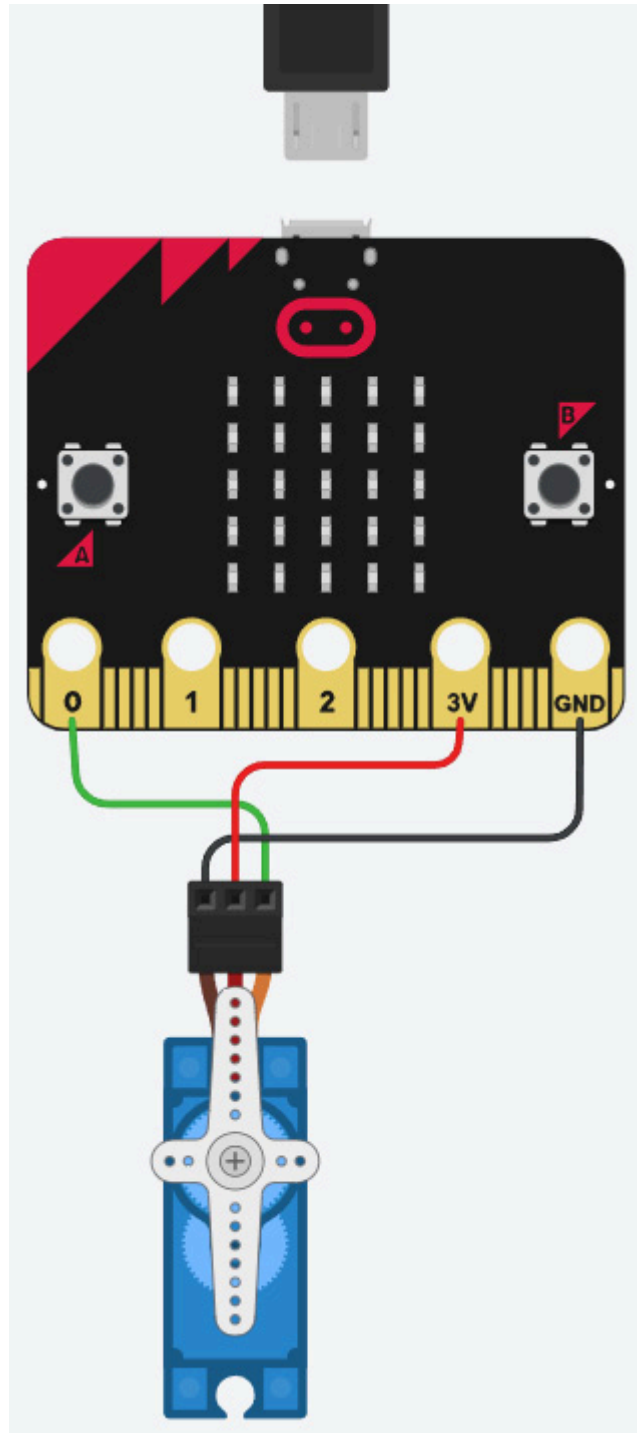

Figure 9.7 – Connecting a servo motor to the Micro:bit
A **servo motor** is a rotatory device with torque and velocity controlled through voltage and current. The main components in a servo motor are a driver circuit, which contains the power and the feedback loop, a potentiometer that regulates the voltage value, a **direct current (DC)** motor that performs a rotatory operation, and the gears to reduce the **revolutions per minute (RPM)** value so that the torque of a motor can be increased. *Figure 9.7* shows the connection of a servo motor with the Micro:bit: